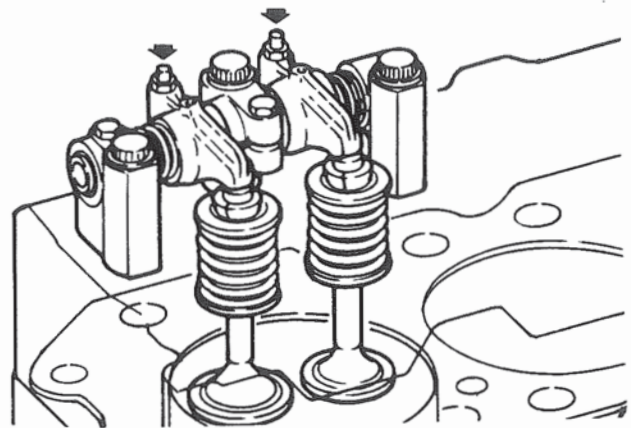

Figure 1. Loosening Rocker Arms.
2. Determine which rocker arms are holding valves open and back off rocker arm adjusting screws. Figure 1.